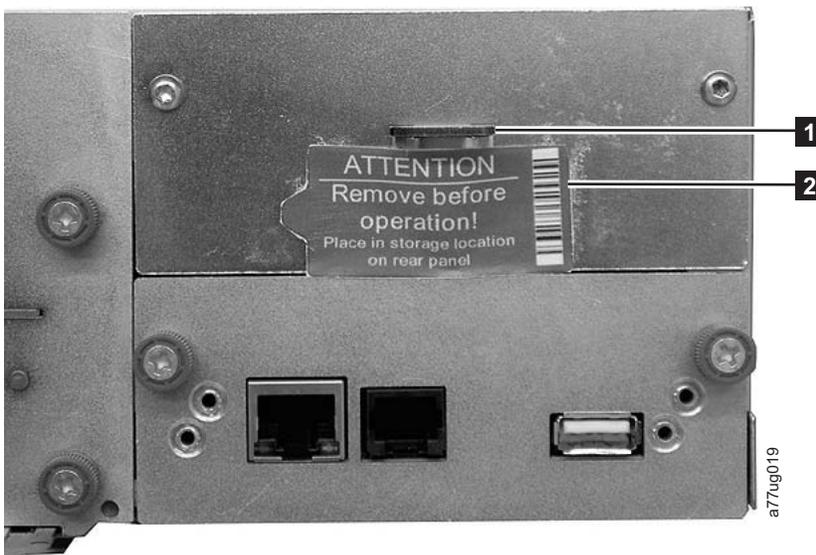

Figure 10-18. Library shipping lock and label storage location on the rear panel of the library
5. Store the lock and label on the back panel of the replacement library enclosure (see Figure 10-18).